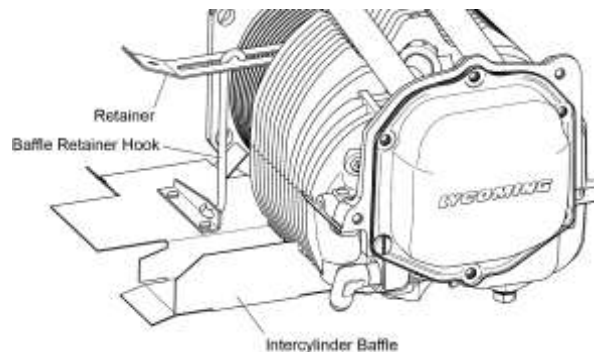

Figure 15
- (1) Turn the baffle retainer hook to disengage the retainer on the intercylinder baffle (Figure 15).
- (2) Remove the intercylinder baffle and hook from between the cylinders.